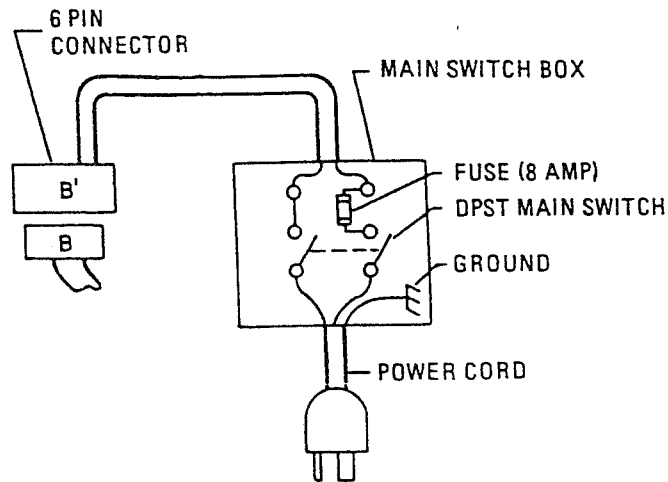

Figure 5-1. Main Switch Box and Fuse (Model 5001 shown)
2. Disconnect connectors B and B'. See figure 5-1. Leave all other connectors connected.